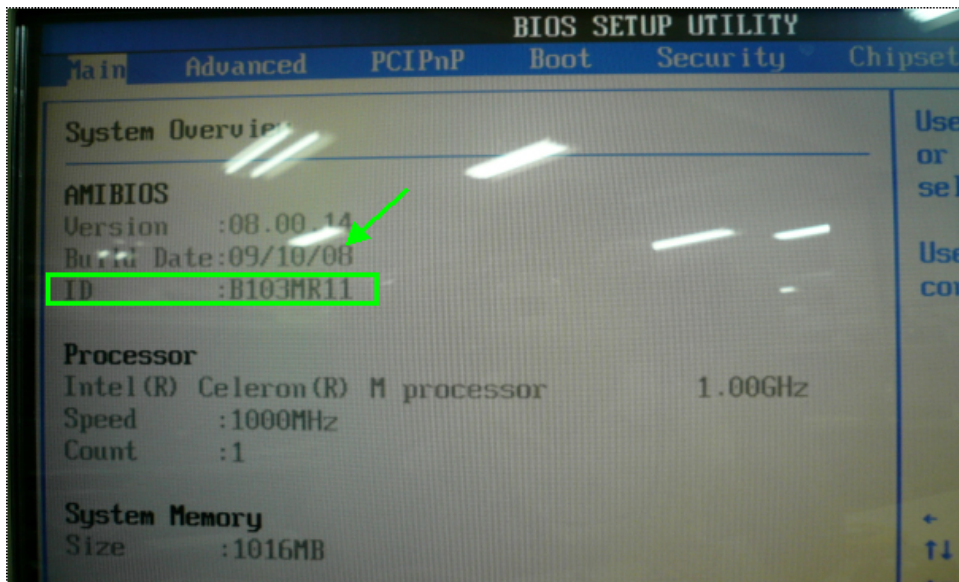

Figure 6-18: BIOS Main Menu – Updated BIOS Version (MR11)
**Step 6:** Restart the system and check the BIOS menu. The BIOS version is changed to MR11 (Figure 6-18).